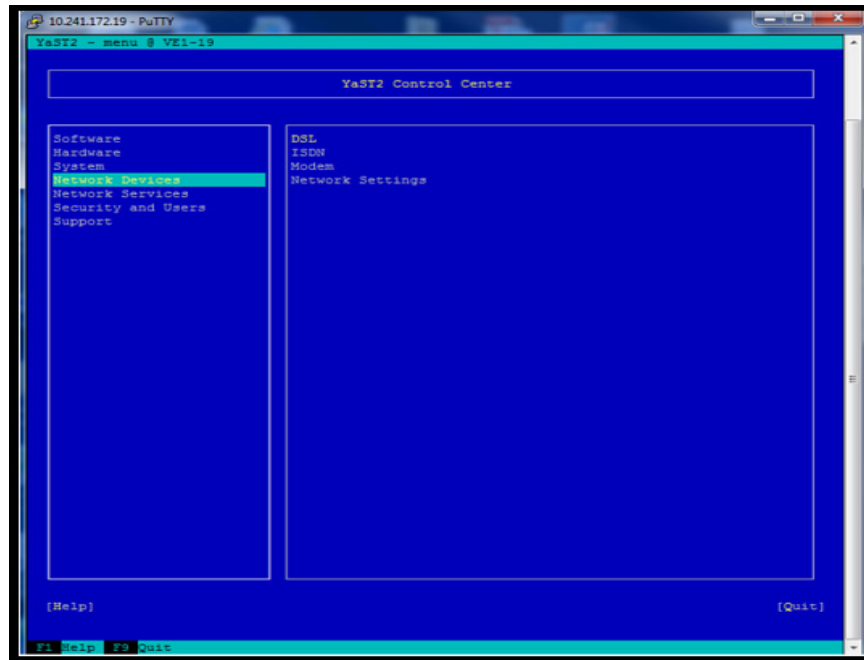

Figure 169 Selecting Network Devices
3. Select **Network Devices**, as shown in Figure 169 on page 129.